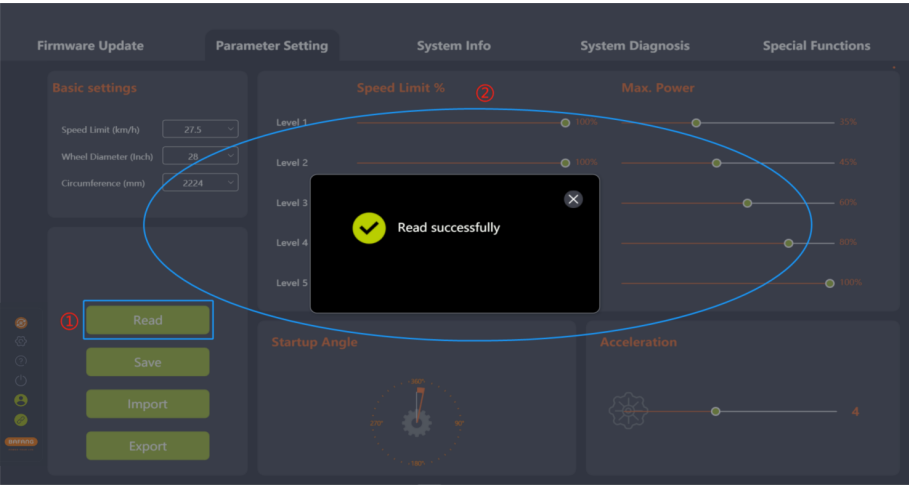

Fig 5-4 Read
- 2. Each parameter in the interface is displayed as a number and slider (Figure 5-4).